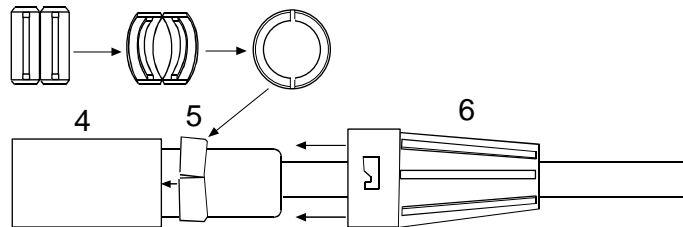

Figure 2: Proper Use of Compression Ring
2. Slide backshell (6) onto cable (**Figures 2 & 3**)
3. Slide rubber grommet (4) onto cable (**Figures 2 & 3**). Use silicone spray as necessary.
4. Slide twist-lock ring (2) onto cable (**Figures 2 & 3**).
9. Position compression ring (5) as shown in **Figures 2 & 3**. Note that the ring comes in two halves. Do NOT break them apart. Instead, fold them to make a ring, and position over the thin part of the rubber grommet.